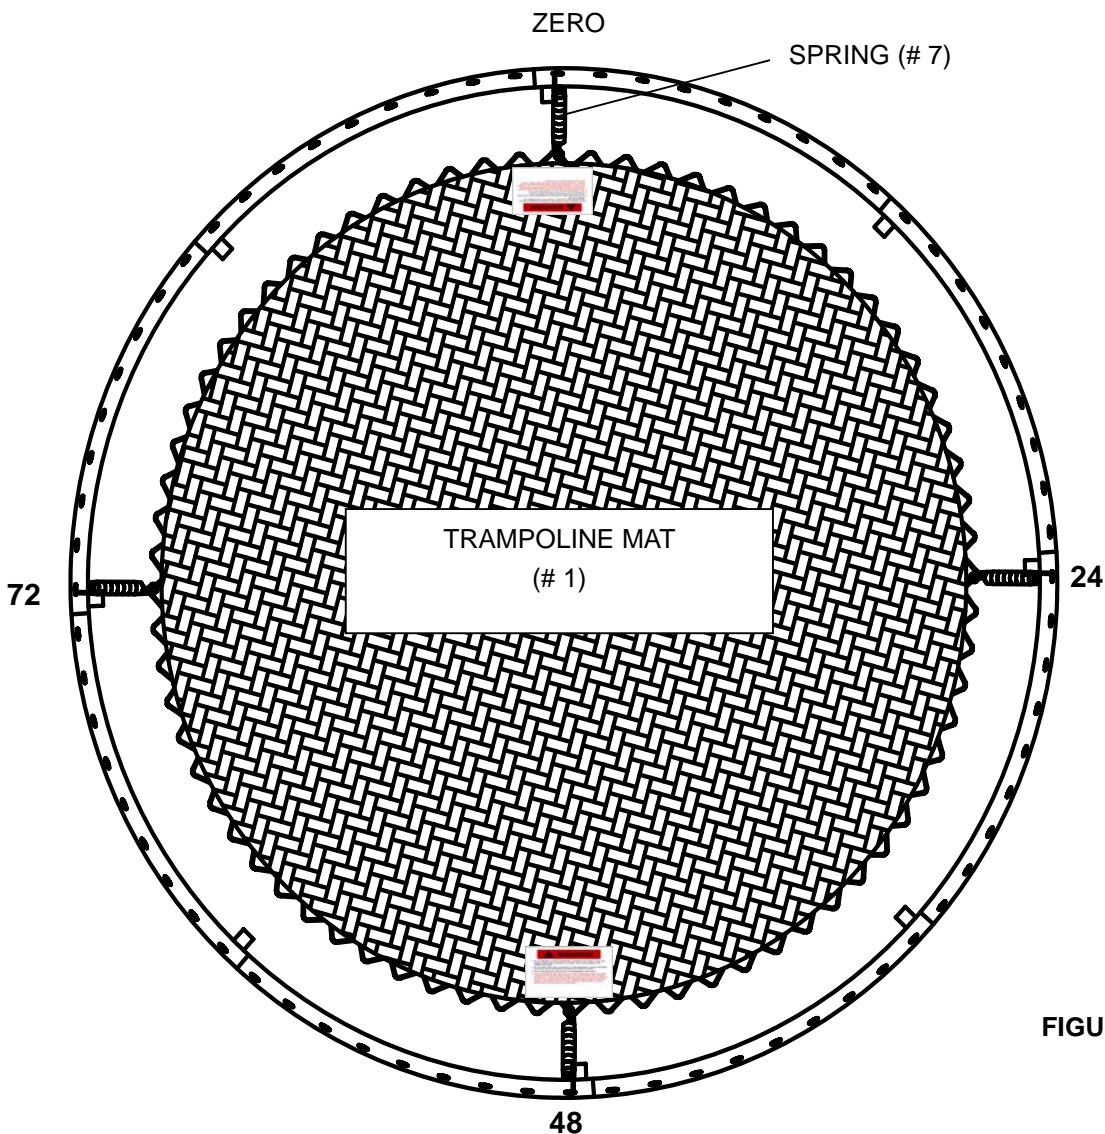

FIGURE 7
- C. Next, starting from point Zero, count to hole 48 on the opposite end of the mat and attach a Spring in the same manner. For even distribution of tension and ease of assembly, springs should always be installed on opposite sides of the mat/frame in an alternating manner, i.e. Zero, then 48, followed by 24 and 72 as shown in FIGURE 7.